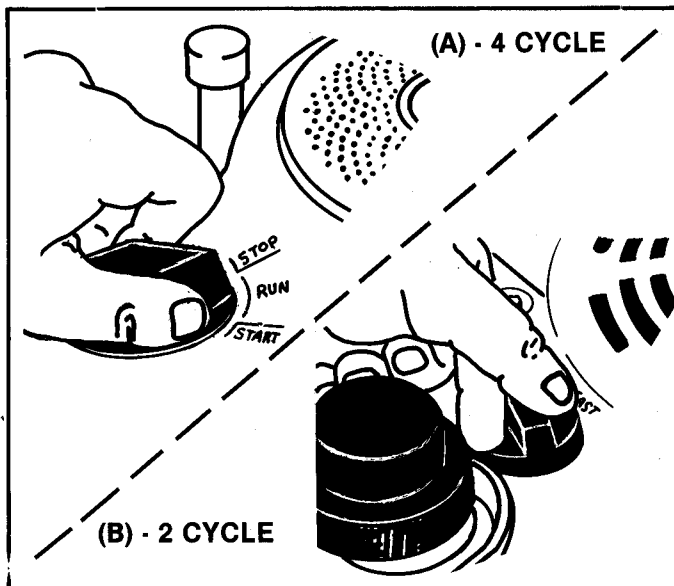

FIG. 2 -- LOCATION OF ENGINE CONTROLS
1. Move ENGINE CONTROL (see figure 2) to START on 4-cycle models or to FAST on 2-cycle models.